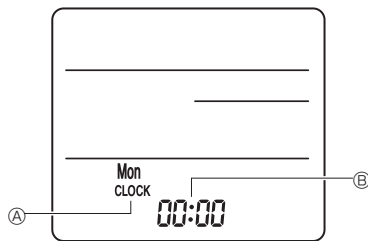

Fig. 6-5
3) Setting (Clock setting) (Fig. 6-5)
① Insert batteries or press the ● CLOCK button with something sharp.